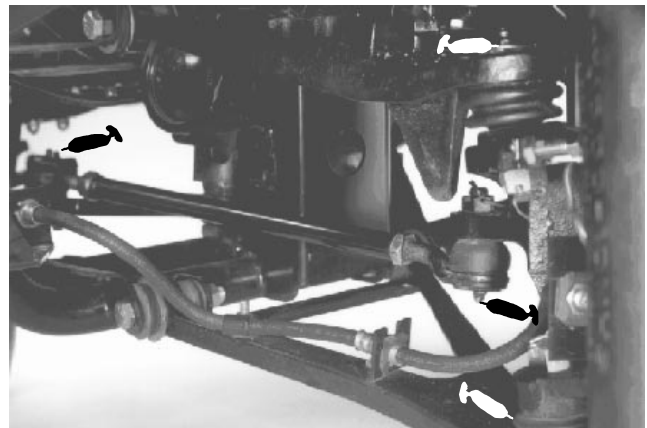
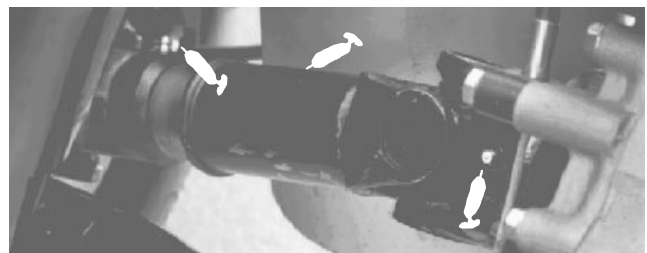

Figure 21
Figure 22
GREASING BEARINGS AND BUSHINGS (Fig. 21 – 26)
The grease fitting locations and quantities are: Tie rod ends (4) (Fig. 21), Front ball joints (4) (Fig. 21), Rear drive shafts (18) (Fig. 22) Front pivot bushings (2) (Fig. 23); Pedal Pivots (4) (Fig. 24); Steering shaft (1) (Fig. 25) and Accelerator Arm (1) (Fig. 26).